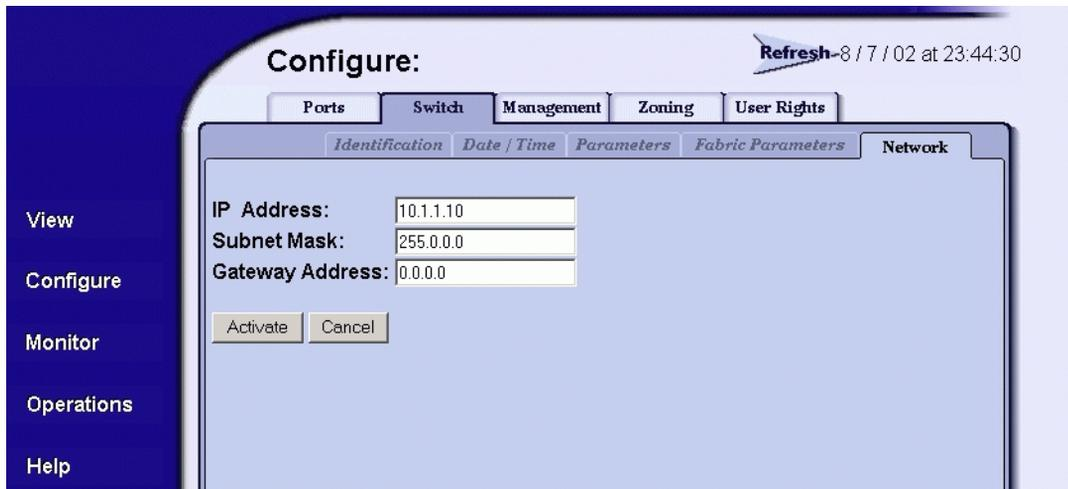

Figure 2-6: Configuring network parameters tab view
2. Click the **Switch** or **Director** tab, then click the **Network** tab to display the **Network** tab view (Figure 2-6).